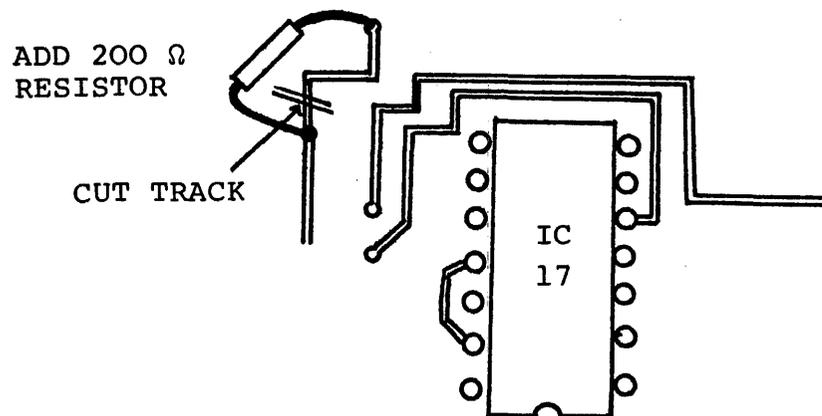

FIGURE 6.
14. Cut the etching on the component side of the PCB at location G3 as shown in Figure 6.
15. Install a 200Ω resistor (P/N 1876 4910) on the component side of the PCB as shown in Figure 6.